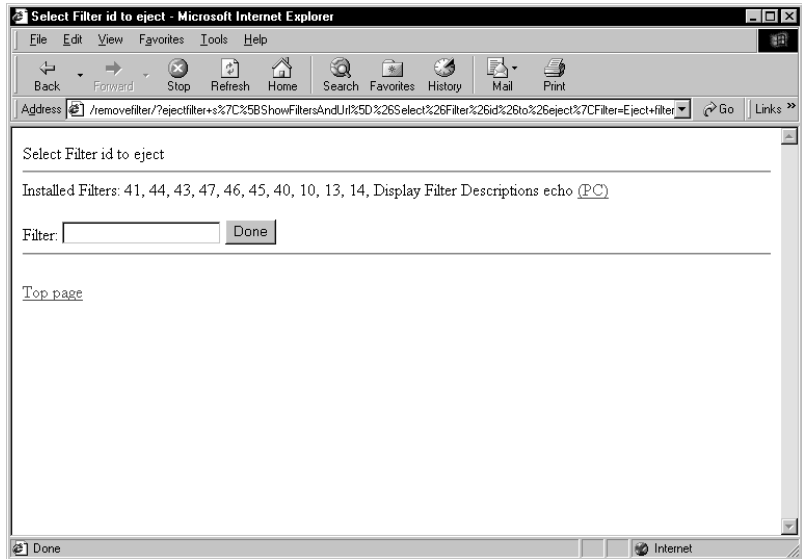

Figure 13-10. The Select Filter ID to Eject window.
3. Click **Eject Filter**. The Select Filter ID to Eject window appears and displays a list of the bar codes for the installed filters (figure 13-10).